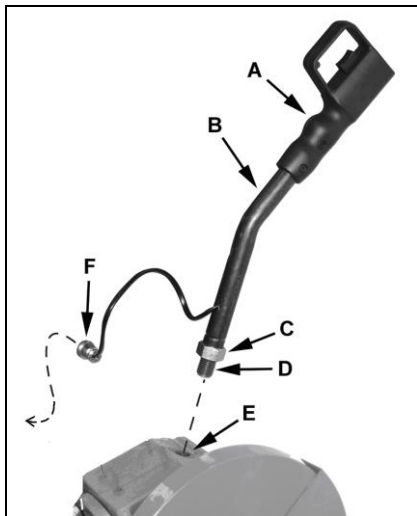

Fig 1
Screw the threaded end (D, Fig 1) of the operating handle (B) into the threaded opening (E).
You can start the machine by pressing the trigger on the hand grip (A, Fig 1) with your fingers.